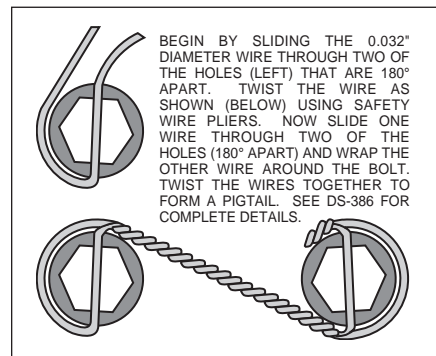

Figure 2. Safety Wire Diagram
• Safety wire bolts using standard 0.032 inch diameter stainless steel safety wire as shown in Figure 2. Please refer to Wilwood's data sheet DS-386 (available at [www.wilwood.com/Pdf/DataSheets/ds386.pdf](http://www.wilwood.com/Pdf/DataSheets/ds386.pdf)) for complete safety wire installation instructions.